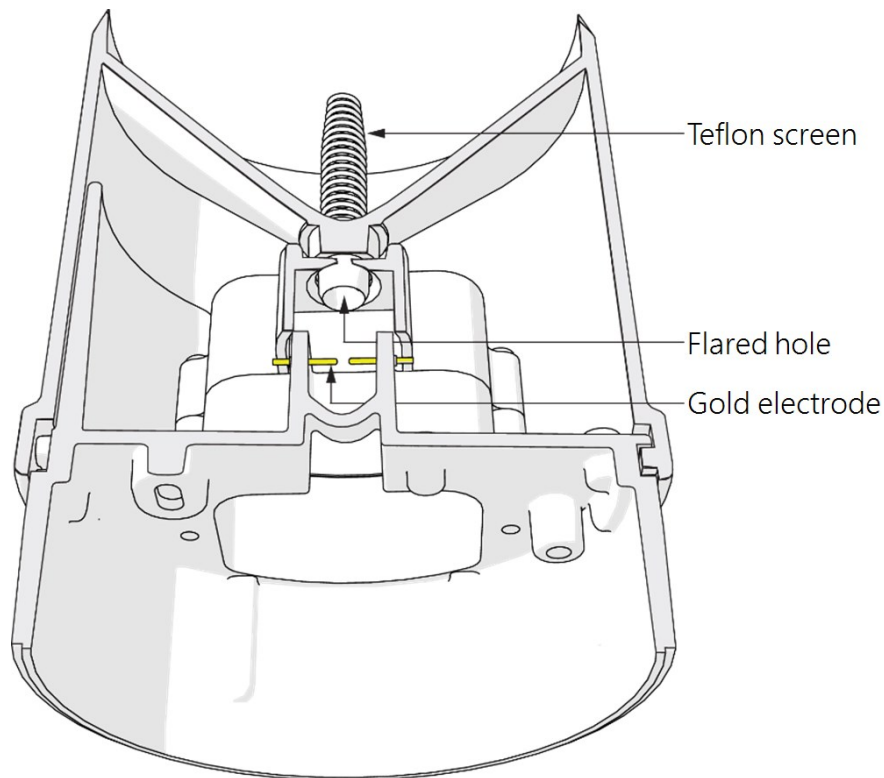

Figure 9-5. Rain gage cutout
- c. Check the downspout for debris (Figure 9-5 (p. 32)). Use a pipe cleaner or small soft brush to clean the downspout.